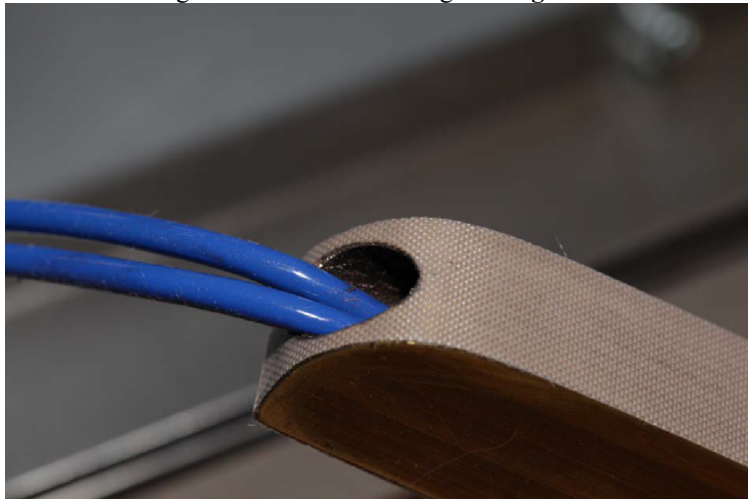

Figure 24
25. Place the heating element into the heating bar. **Fig. 24**